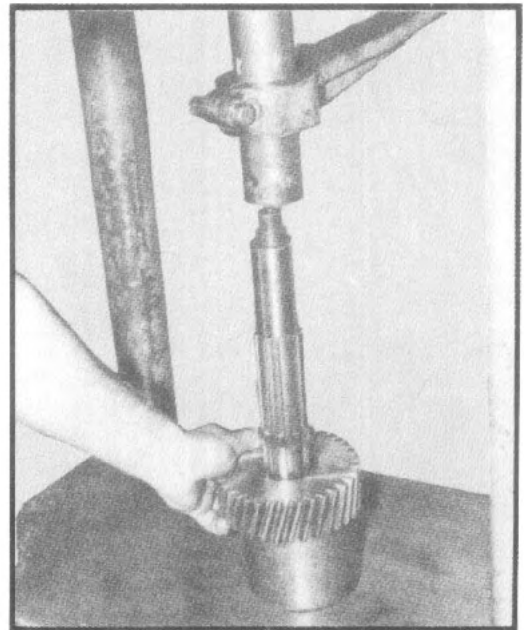

Fig. 13
- c. Press shaft into heated direct drive gear (See fig. 13).